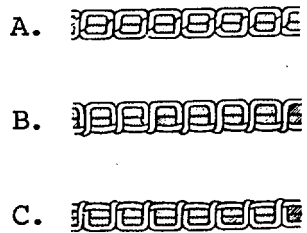

Figure 2-33. Checking Thread Tension.
(5) Set motor switch to the OFF position.
k. Adjusting Tension on Bobbin and Needle Threads (Refer to Figures 2-33 through 2-35).
(1) Refer to Figure 2-33. Proper tension locks the bobbin and needle threads in the center of the material as shown by A. If needle thread tension is too tight, or if bobbin tension is loose, the A. needle thread will pull to the upper surface of the material, as shown by B. If bobbin thread tension is too tight, or if needle B. thread is loose, the bobbin thread will pull to the underside of the material as shown by C. If both threads are too tight, the material C. will be puckered and drawn together by the stitches and the threads will break. Adjust the tensions as follows: